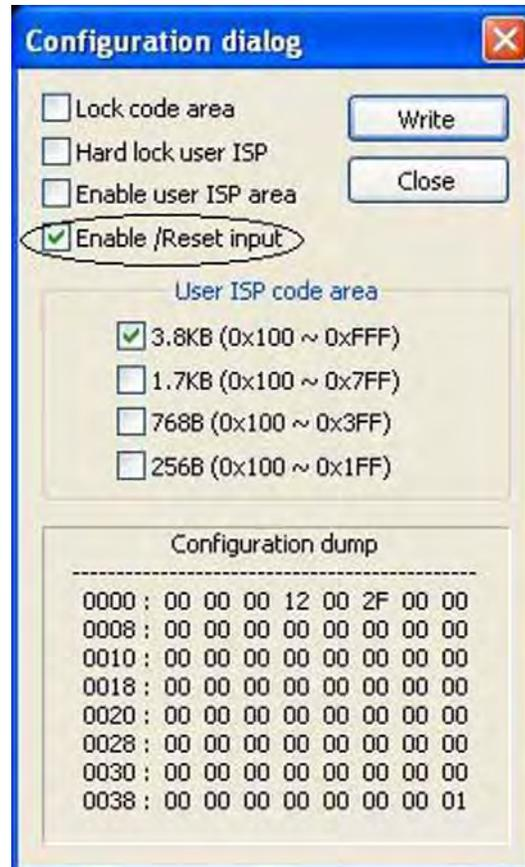

Figure 6. Configuration Dialog, Zilog Z8051 OCD 1.147
5. Reset the MCU by pressing the reset switch on the Development Board. Note that for the reset pin to work, the **Enable/Reset Input** option in both the OCD and Keil configuration dialogs must be selected during the loading of the hex file to the MCU. See Figures 6 and 7.